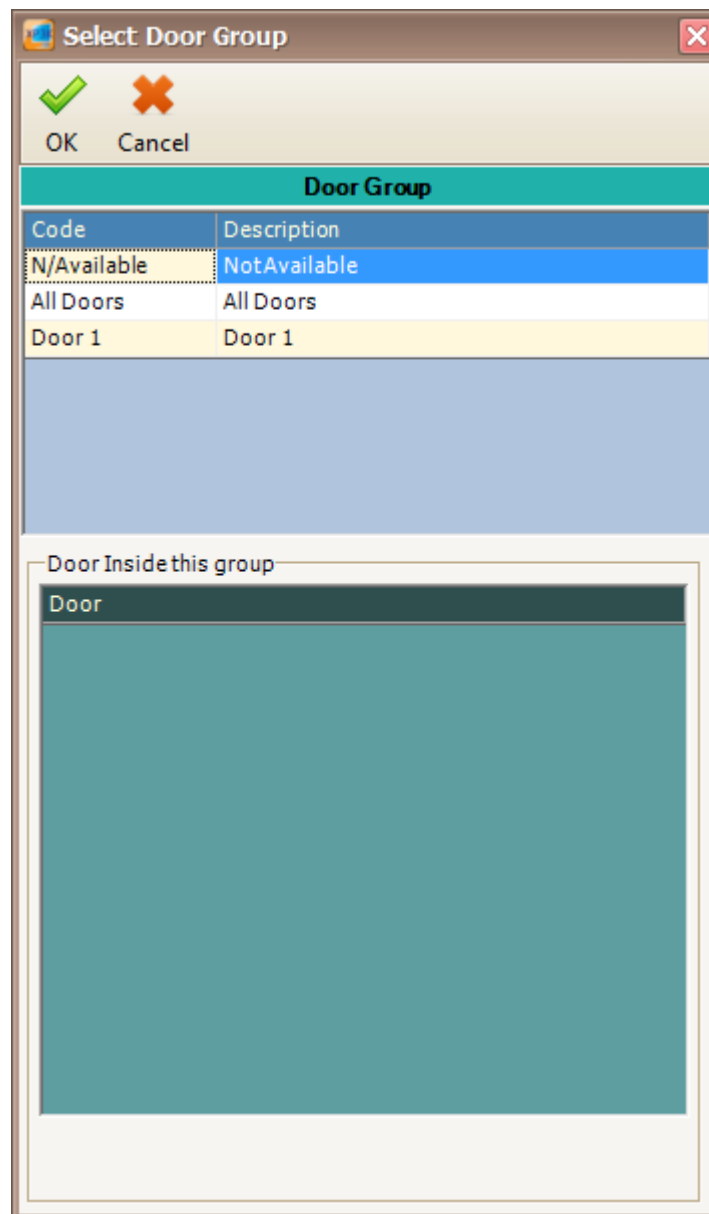

Figure 155 - Select Door Group
4. Enter the code and click the Door Group button to select the door group (Refer **Figure 155**).